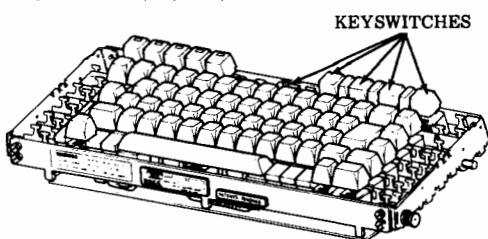

Fig. 12—Keyswitch Identification
- (b) Remove the INTERLOCK, PRINTER TEST, PARITY, DUPLEX and CPS keyswitches (Fig. 12).